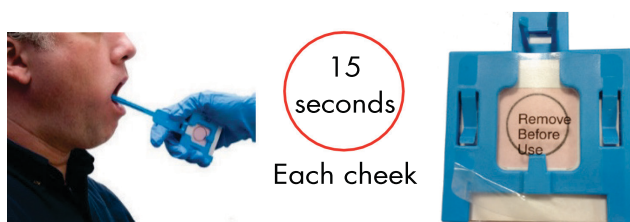

Figure 2. Sample uptake using the EasiCollect device.
4. Hold the EasiCollect as shown (Figure 2). Place the foam head in the mouth, and using moderate pressure, run it along the gum-line and under the tongue. Once the foam head is wet with saliva, rub the inside of each cheek for **15 s**. Ensure that you feel/see the cheek protrude slightly during the collection. It is extremely important to ensure that the foam head is coated with saliva during this step to enable good sample transfer.
6. Carefully remove the plastic protective film from the FTA Card holder (Figure 2) to expose the FTA Card.